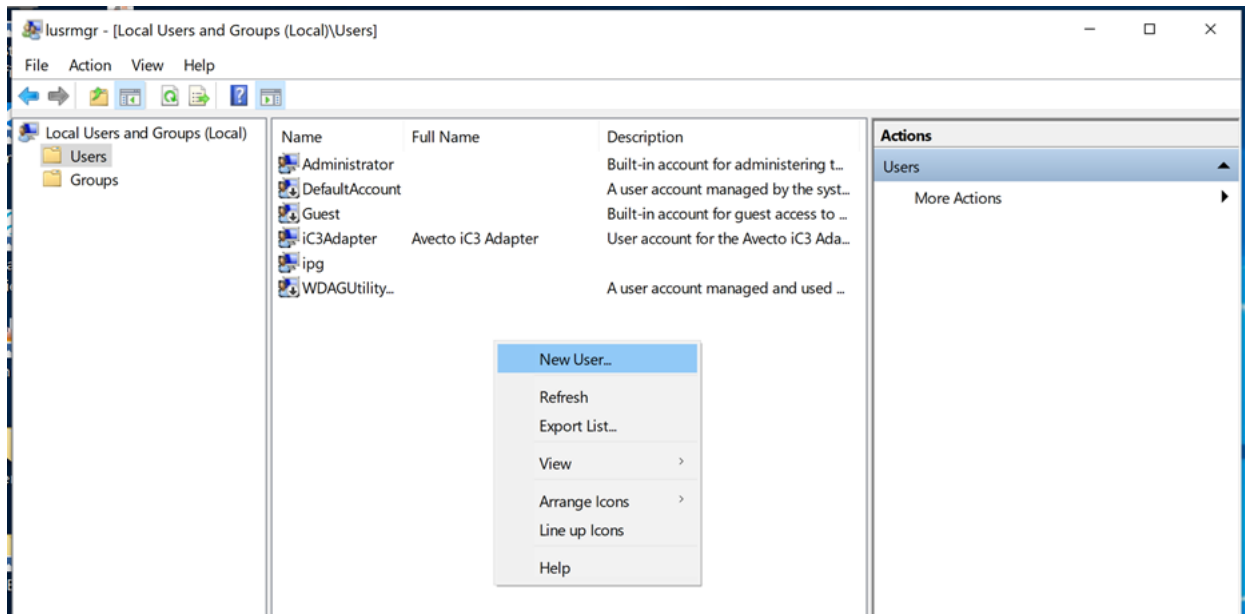

Figure 16: Opening the New User Window
4. Right click and select "New User..." (see Figure 16).